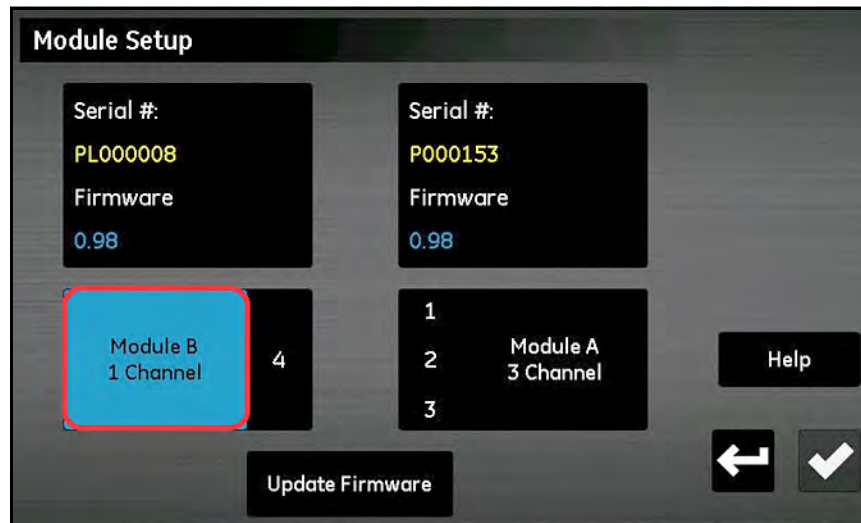

Figure 95: Module Selection
5. Tap the module that needs the firmware update, and that module will be highlighted in blue and the **Update Firmware** button will become available (see *Figure 95* below). If the **Update Firmware** button is grayed out, check to ensure that the USB flash drive is properly plugged into the USB port.